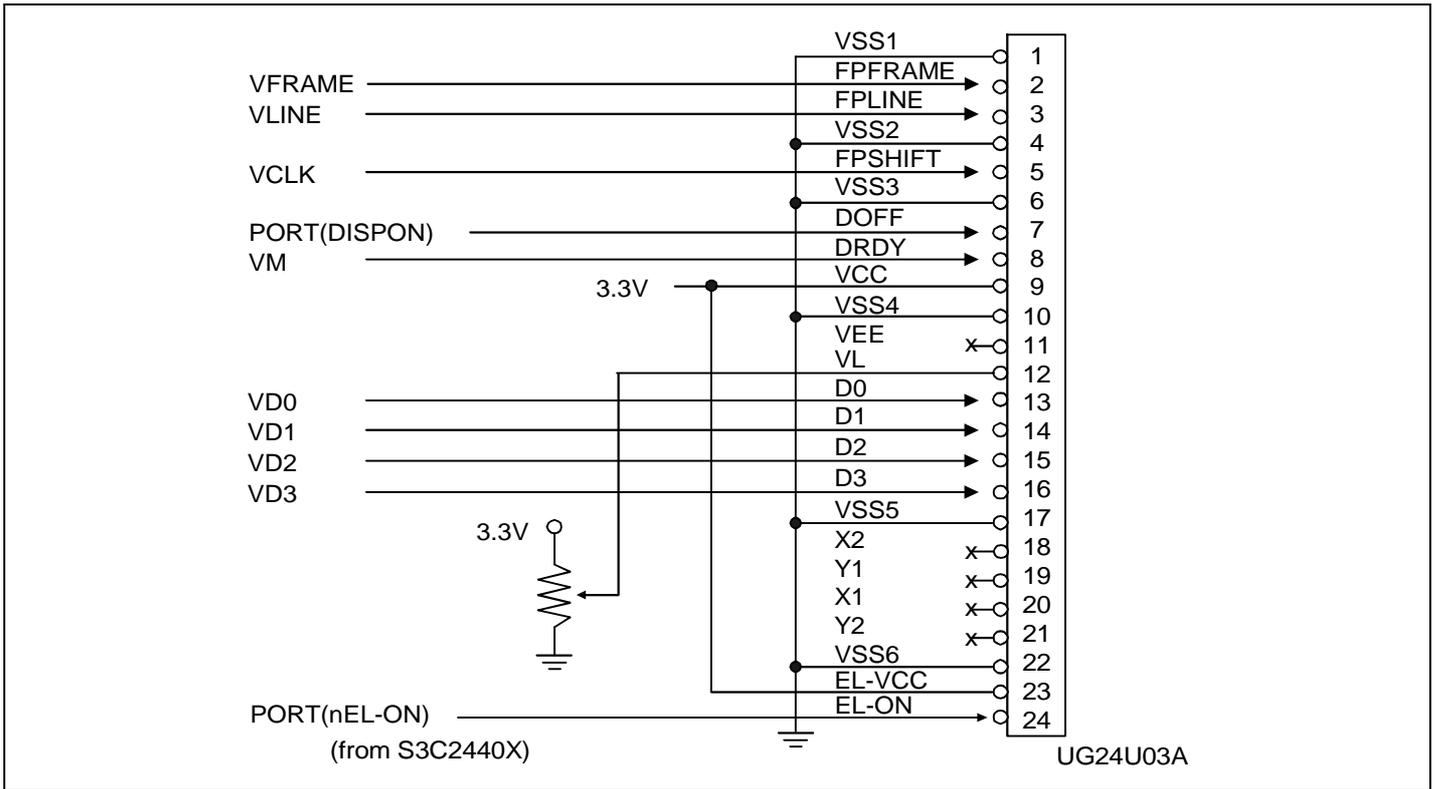

Figure 4-15. UG24U03A Connection with S3C2440X (320x240 Mono STN LCD)
- UG-24U03A (320x240 mono STN LCD) from SAMSUNG DISPLAY DEVICES CO., LTD. (refer to Figure 4-15)